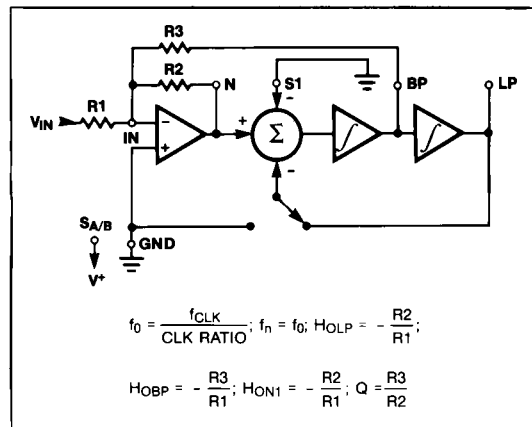

Figure 5. Mode 1: 2nd-Order Filter Providing Notch, Bandpass, Lowpass
The MAX265/266's filter sections can be configured in several basic "Modes" as selected by the  $S_{A/B}$ ,  $S1_A$ , and  $S1_B$  inputs and external resistors. Figures 5 through 20 show symbolic representations of the MAX265/266 filter modes. Only one 2nd-order section is shown in each case. The  $f_0$ ,  $f_N$  (notch),  $Q$ , and various output gains for each mode are shown in each figure. Advantages of various modes for each filter type are discussed in the following sections. Table 1 lists typical  $f_0$  and  $f_{CLK}$  ranges for each mode at various  $Q$ s.
**MODE 1, 1B, and 1C** (Figures 5, 7, 8) work well in 2nd-order notches. These modes have the highest bandwidth and are the most basic since the notch ( $f_N$ ) and  $f_0$  occur at the same point. In Mode 1,  $f_N$  is set only by the clock and the programmed  $f_{CLK}/f_0$  ratio. In Mode 1B and 1C,  $f_N$  can be tuned with resistors, but is still equal to  $f_0$ .